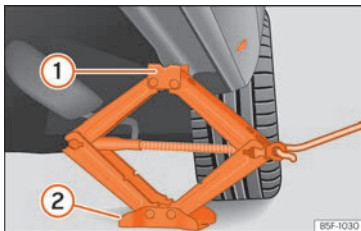

Fig. 243 Crossbar: mounting the jack on the vehicle.
- Turn the jack crank handle, located below the strut support point, to raise it until the tab ① >>> Fig. 243 is below the housing that is provided.
- Align the jack so that the tab ① "grips" onto the housing provided on the cross member and the mobile base ② is resting on the ground. The base plate ② should fall vertically with respect to the support point ①.